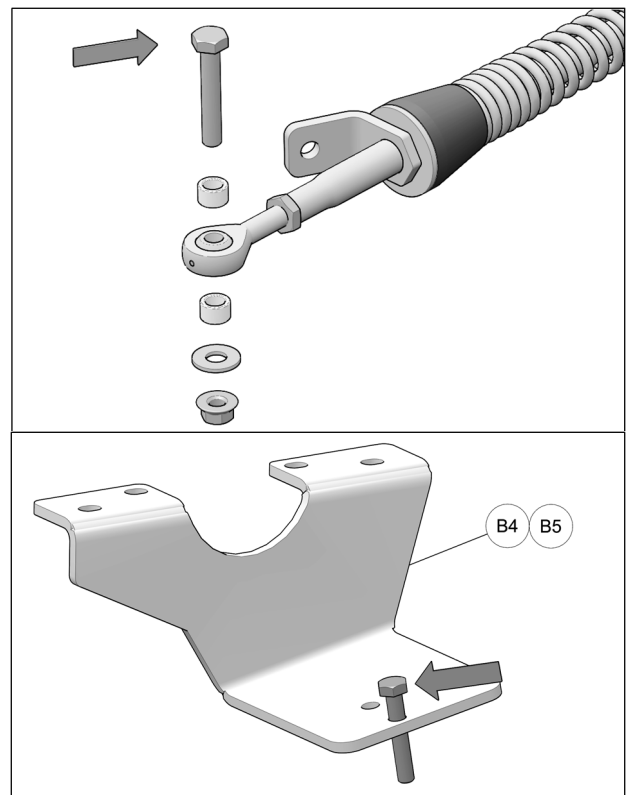

Fig. 3
4. Remove bolt, washers and spacer bushings from rear stabilizing rod end and insert bolt in the rear anchor bracket (**B4-B5**) as shown in Fig. 3